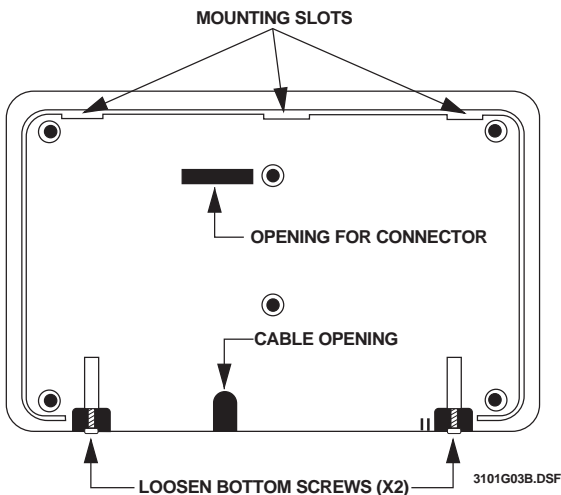

Figure 1. Touchpad Mounting Slots
1. Separate the mounting bracket from the back-plate by loosening the two bottom screws and unlatching the tabs from the mounting slots (see Figure 1).